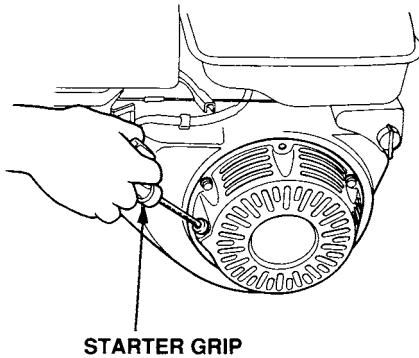

Figure 17. Starter Grip
6. Pull the **starter grip** (Figure 17) lightly until you feel resistance, then pull briskly. Return the starter grip gently.